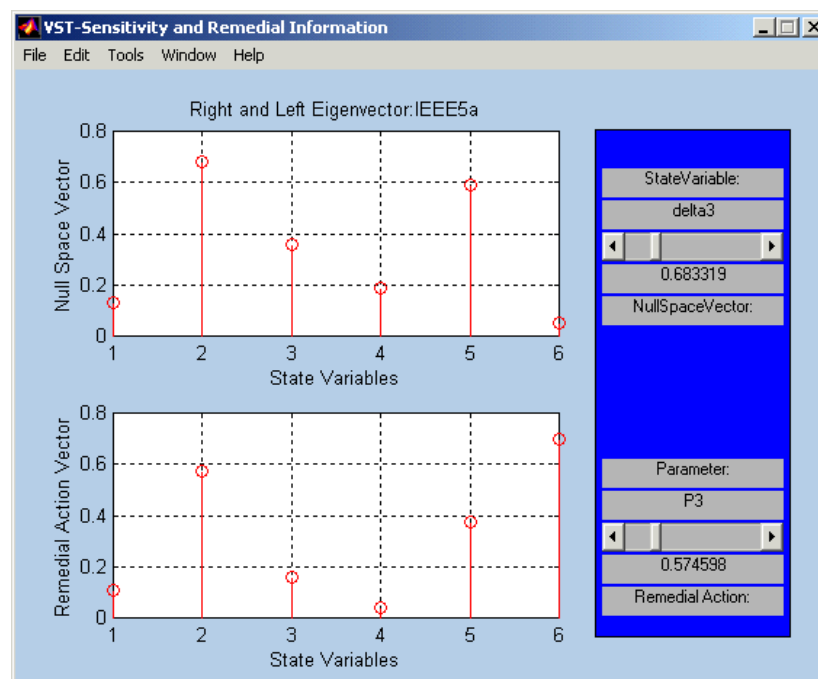

Fig. A.25 Absolute values of components of the right and left eigenvectors corresponding to the zero eigenvalue of the system matrix
- The resulting plot is illustrated in Fig. A.25. The first graph shows the null space vector used to determine which variables are the most sensitive to voltage stability at the SN bifurcation point according to the magnitudes. The second graph displays the remedial action information that is useful for corrective control actions.